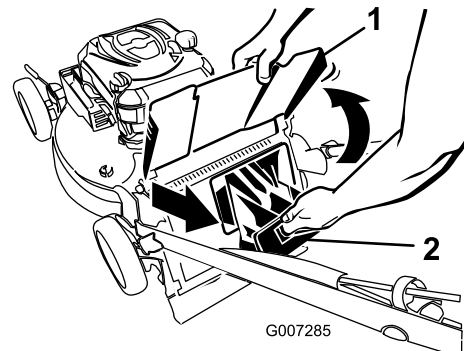

**Figure 20**
1. Route the starter rope around the lower-rope guide (Figure 20).